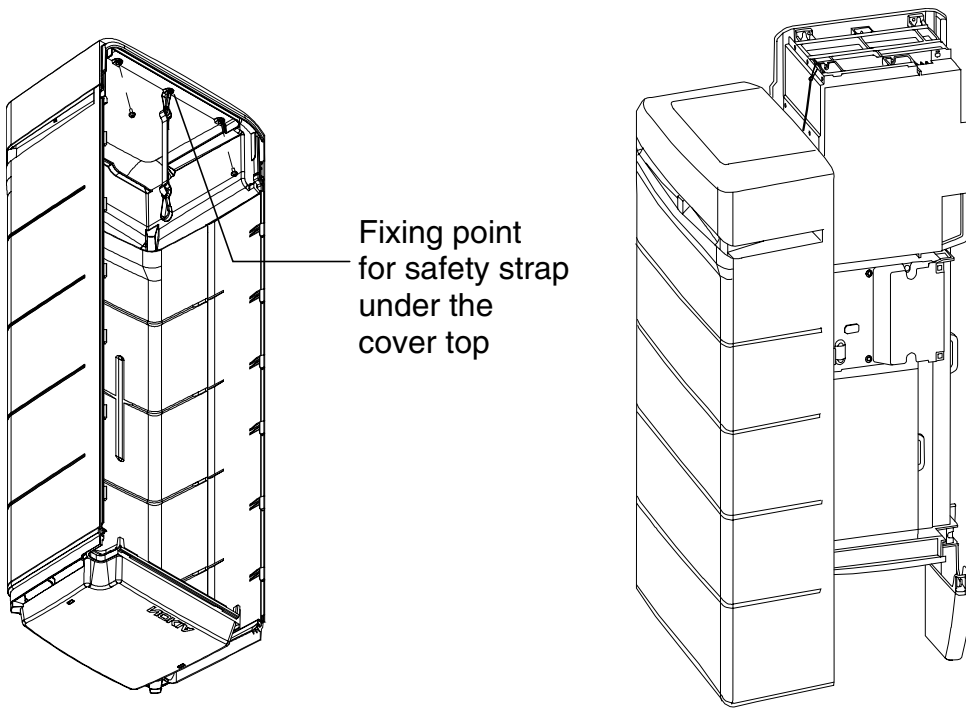

Figure 27. Hanging the BTS cover
1. Bring the BTS cover to the BTS chassis (see Figure 27). Attach the safety strap to the fixing point provided under the top of the cover.
2. Make sure that the cover is secured with the safety strap (see Figure 27).